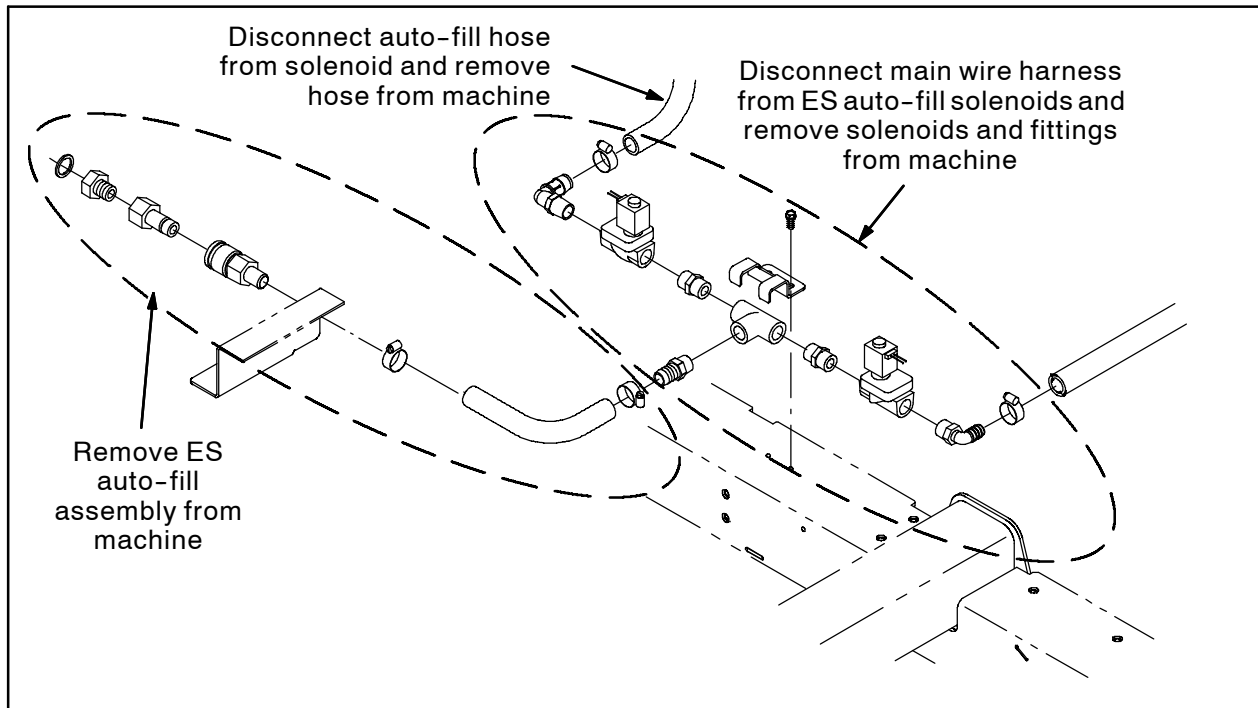

FIG. 4
5. Remove the auto fill assembly from the machine. Refer to Fig. 4.
6. Disconnect the main wire harness from the auto fill solenoids. **Do not** disconnect the float switch connector. Refer to Fig. 4.
7. Disconnect the auto fill hose from the solenoid and remove the hose from the machine. Discard the hose. Refer to Fig. 4.
8. Remove the auto-fill solenoids and fittings from the machine. Discard the fittings and solenoids. Refer to Fig. 4.